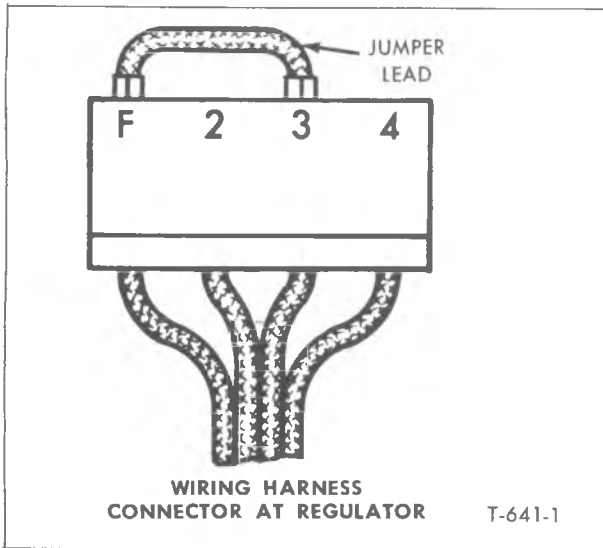

Figure 8—Generator Output Test—Jumper Lead Connection at Regulator (Typical)
4. Pull latch on regulator upward to disengage from connector, then pull wiring harness connector from regulator. Connect a jumper lead between "F" terminal socket and #3 socket as shown in figure 8.